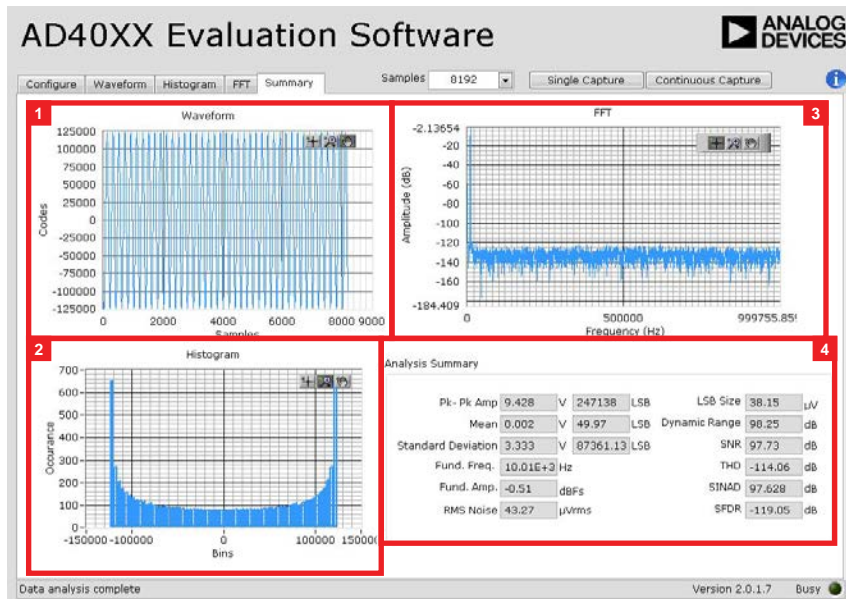

Figure 22. AD40XX Evaluation Software **Summary** Tab View
Figure 22 shows the **Summary** tab view. The **Summary** tab simultaneously displays the waveform, histogram, and FFT graphs and analysis for the AD4000 family device conversion results on the screen. The **Summary** tab contains the following controls and indicators:
- **Waveform graph** (Label 1 in Figure 22): displays the time domain plot of the most recently captured or loaded conversion results. The scale and range of the waveform graph can be set by double-clicking on the minimum and maximum axis values along the x-axis and y-axis and entering the desired values. The waveform graph also includes viewing tools that are described in Table 5.
- **Histogram graph** (Label 2 in Figure 22): displays the histogram of the most recently captured or loaded conversion results. The scale and range of the histogram graph can be set by double-clicking on the minimum and maximum values along the x-axis and y-axis and entering the desired values. The histogram graph also includes viewing tools that are described in Table 5.
- **FFT graph** (Label 3 in Figure 22): displays an FFT of the most recently captured or loaded conversion results. The scale and range of the FFT graph can be set by double clicking on the minimum and maximum axis values and entering the desired values. The FFT graph also includes viewing tools that are described in Table 5.
- **Analysis Summary** (Label 4 in Figure 22): shows the following analysis items for the currently displayed data.